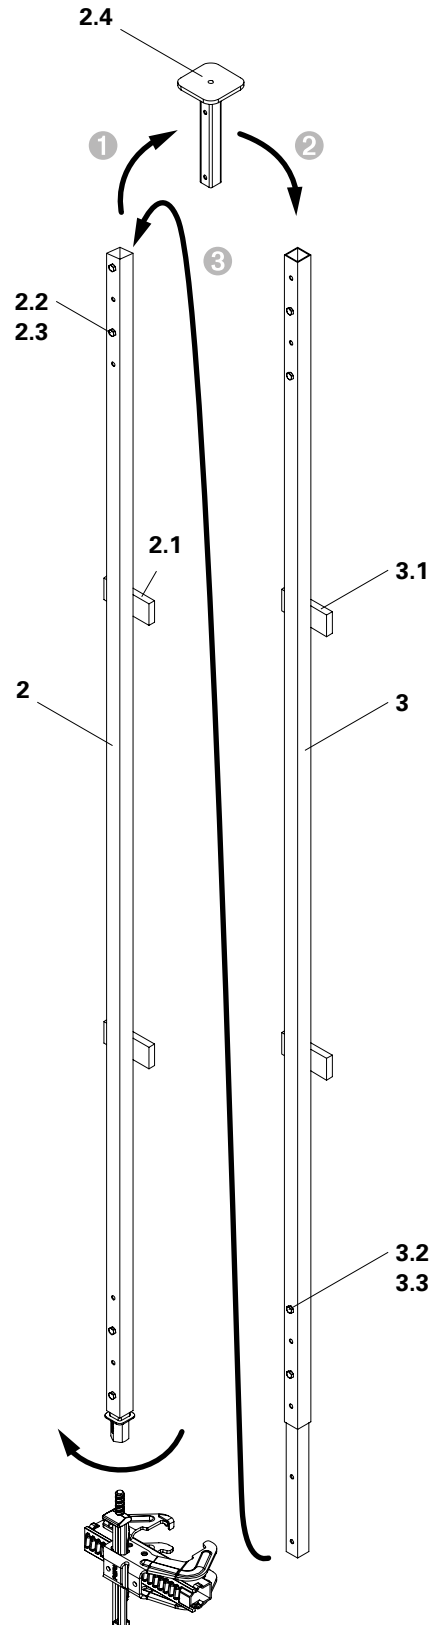

Fig. A3.07
1. Remove screw M8 (2.2) and stop MX VS (2.4) from the control rod (2).
2. Insert stop (2.4) on extension (3). Fix with screw M8 (2.2) and nut M8 (2.3).
3. Insert extension (3) on to control rod (2). Fix with screw M8 (3.2) and nut M8 (3.3).
4. For further assembly see "Formwork height up to 330 cm" (Fig. A3.07)